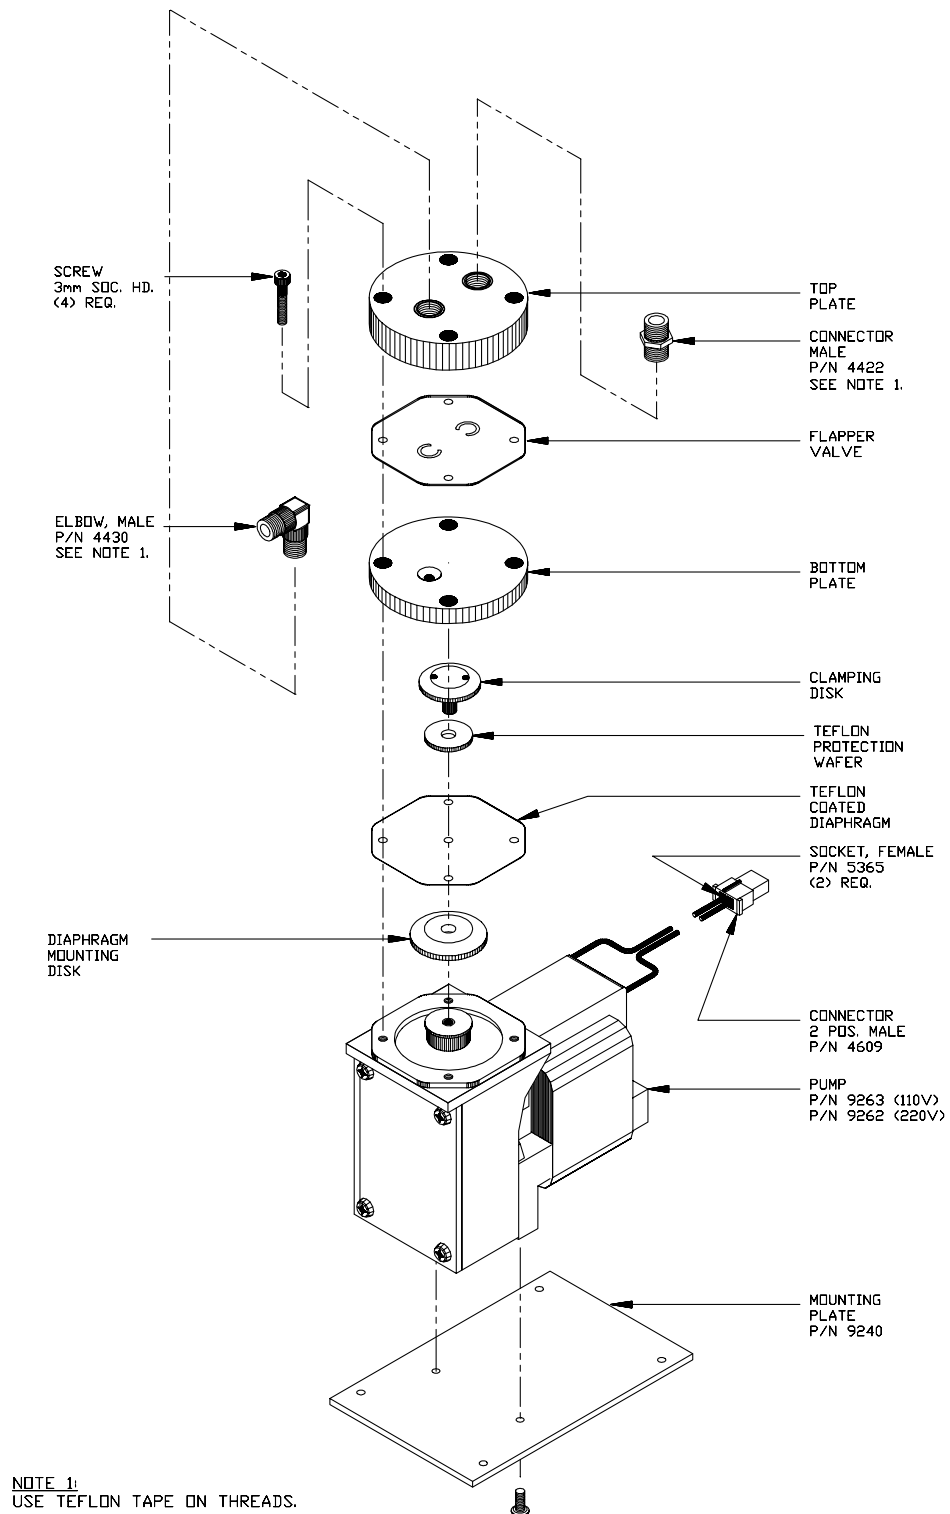

Figure 7-3. Pump Assembly
4. Remove four screws from top plate using Allen wrench (see Figure 7-3). Remove top plate, flapper valve, and bottom plate.
6. Remove two screws holding pump to mounting plate (see Figure 7-3).